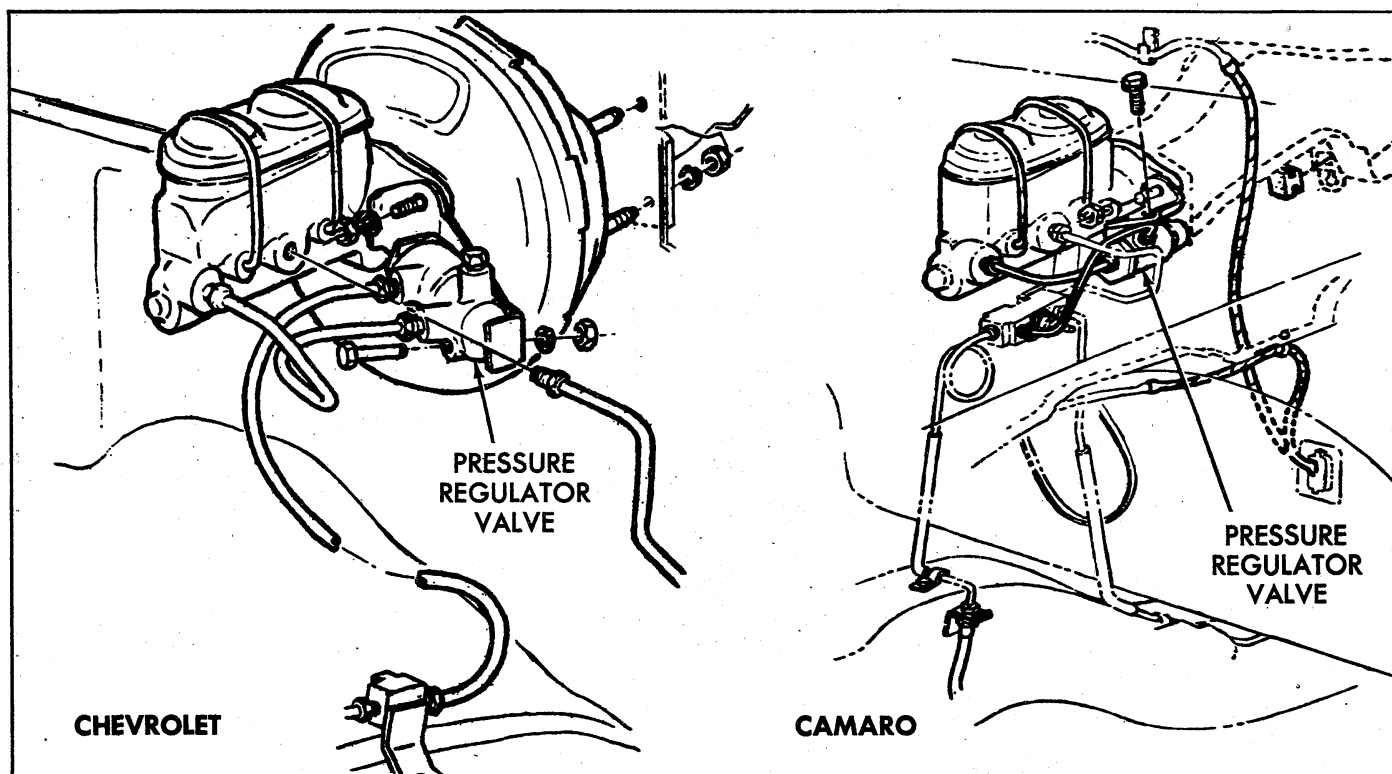

Fig. 36—Pressure Regulator Valve—Chevrolet and Camaro Shown
4. On Chevrolet, Chevelle, Camaro and Chevy II, the spring loaded end of the pressure regulator valve (fig. 36) must be held (valve in open position) while bleeding. This is done by depressing and holding in the plunger in the end of the valve either by hand, by taping, or by clamping.